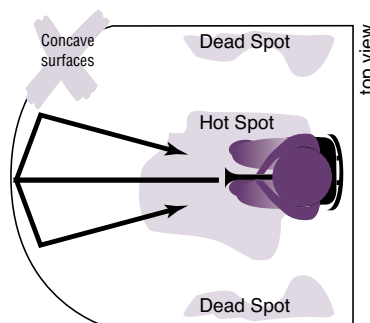

FIGURE 23
- Be sure to look at room shape. Concave ceilings and curved walls focus sound energy creating hot and dead spots (figure 23).